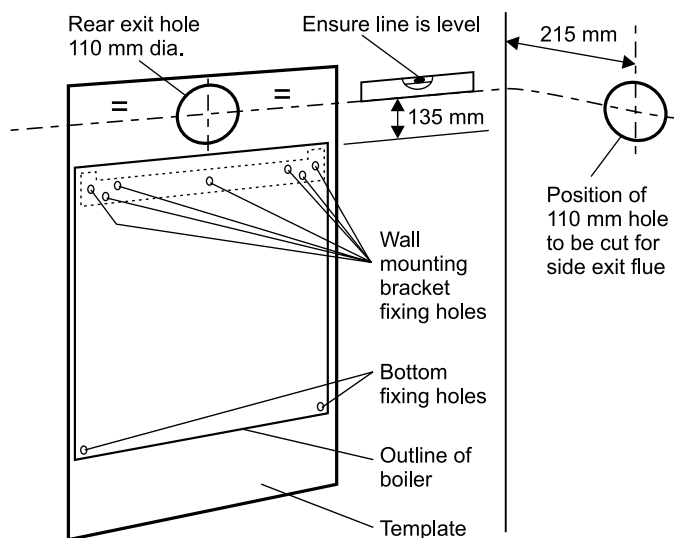

Fig. 9
4.3 PREPARE THE WALL - Figs. 9, 10